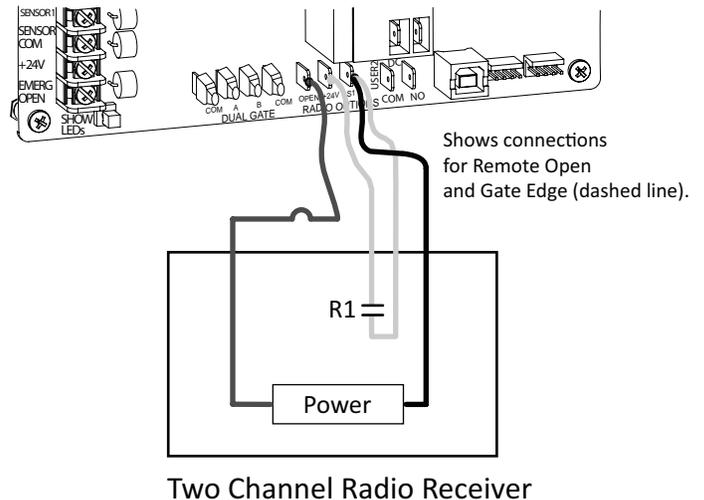

Figure 65. Radio Receiver Connections
2. Route the wires to the area marked RADIO OPTIONS. Only three wire connections are needed because the common wire and one radio output wire are connected together. Figure 65 shows additional wires from a two channel receiver.